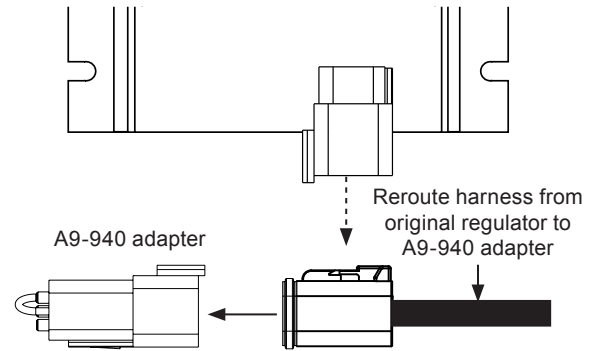

Figure 4: Reuse Existing FLD wire for IGN with A9-940 Adapter
- 50-VR regulators with Deutsch connector (see Figure 4): Unplug Deutsch harness from regulator and plug it into a CEN A9-940 wiring adaptor. No other wiring modification is required. Secure harness as needed.